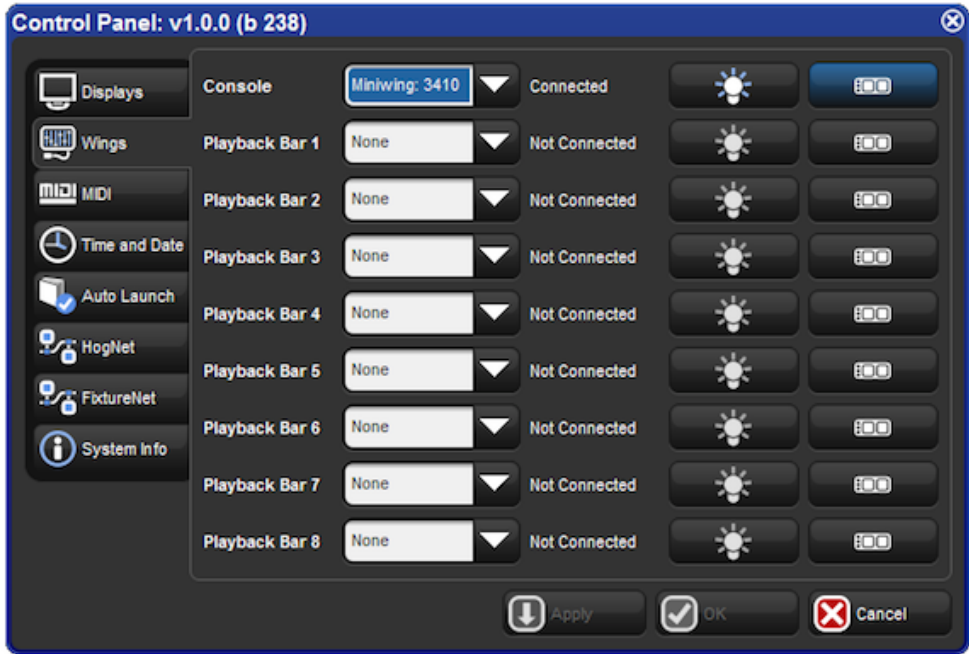

Figure 3.14. The Wings pane of the Control Panel
2. Setup → Control Panel → Wings : open the Wings pane of the Control Panel window (see Figure 3.14, "The Wings pane of the Control Panel").